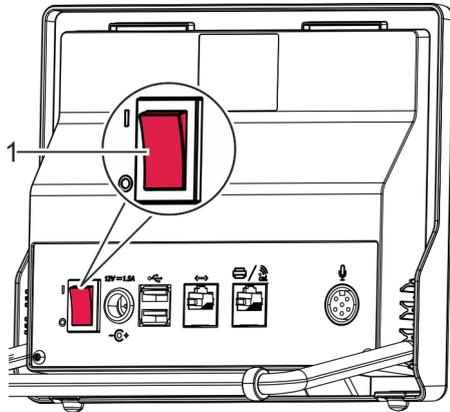

Fig. 14: Switching off the Watch Expert
1. ➤ Switch off the Watch Expert by setting the [I/O] switch (Fig. 14/1) to [O].